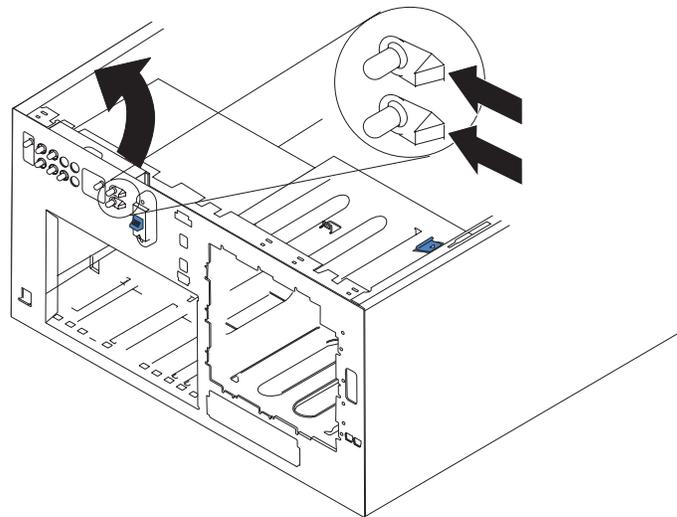

Figure 54. Removing the operator information panel
14. From outside the engine, push the two tabs on the panel as shown in Figure 54, making sure to press the tab near the chassis; the panel will disengage from the chassis.